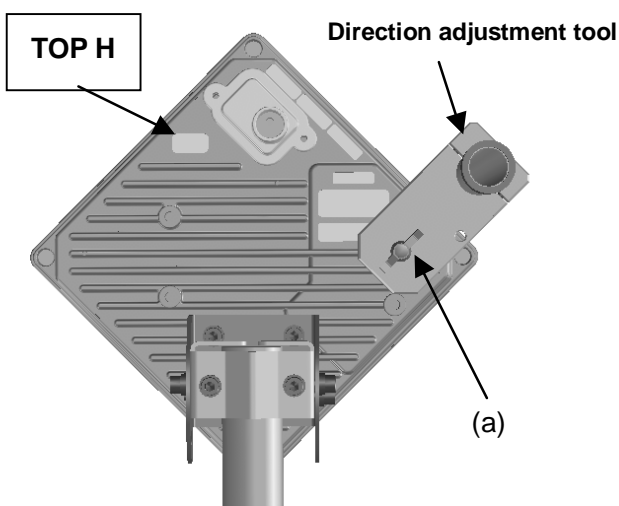
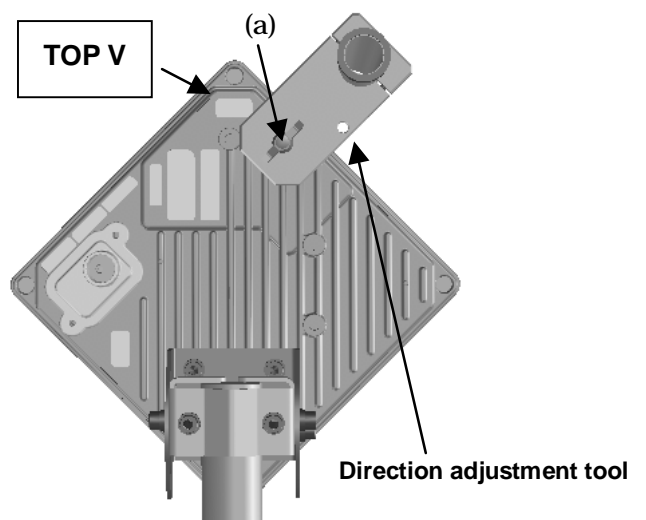

Figure 6-32 How to Install Direction Adjustment tool when the antenna type is the horizontal polarization
Figure 6-33 How to Install Direction Adjustment tool when the antenna type is the vertical polarization
- Step1 As shown in Figure 6-32 and Figure 6-33, use the wing bolt (a) to attach the Antenna direction adjustment tool.